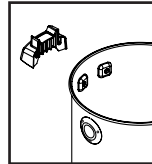

FIGURE 7
6. Remove any webbing that attaches the tank handles to each other. Take the side tank handle with the letter **L** and position it on the outside of the tank where the support assemblies are installed. Secure the handle to the tank with the screws in the support assemblies. **FIGURE 7.**